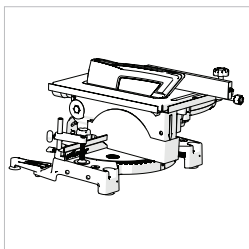

Fig. 18
- Loosen the Table Height Adjustment Screw **(Fig.18)** and lower the table to its lowest position.